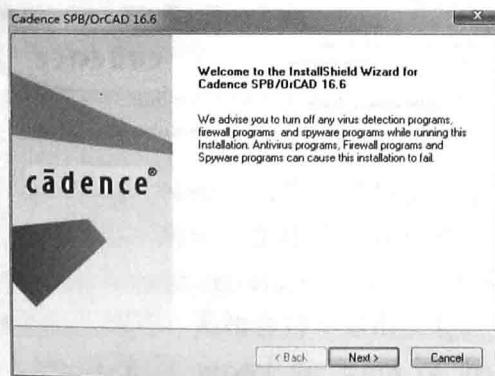
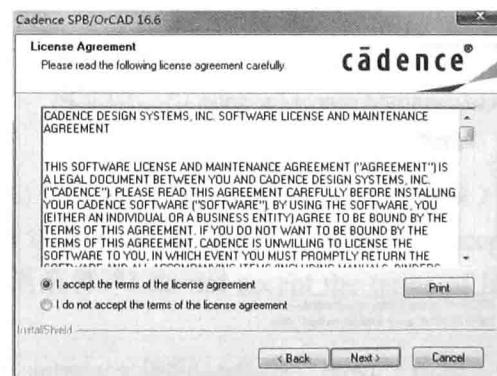

图 1.2.12 “Welcome to the InstallShield Wizard for Cadence SPB/OrCAD 16.6” 对话框
图 1.2.13 “License Agreement” 对话框
(7) 稍等片刻，出现“Welcome to the InstallShield Wizard for Cadence SPB/OrCAD 16.6”对话框，如图1.2.12所示。单击“Next”按钮，出现“License Agreement”对话框，选中“I accept the terms of the license agreement”选项，如图1.2.13所示。